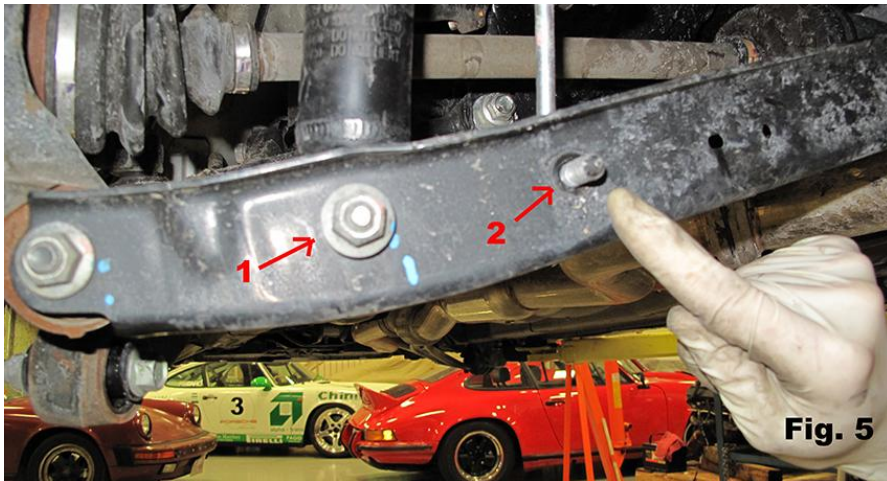

Fig. 7
- 8) Install RCE spring onto shock, making sure that it is oriented correctly in the spring seat (Fig. 7)